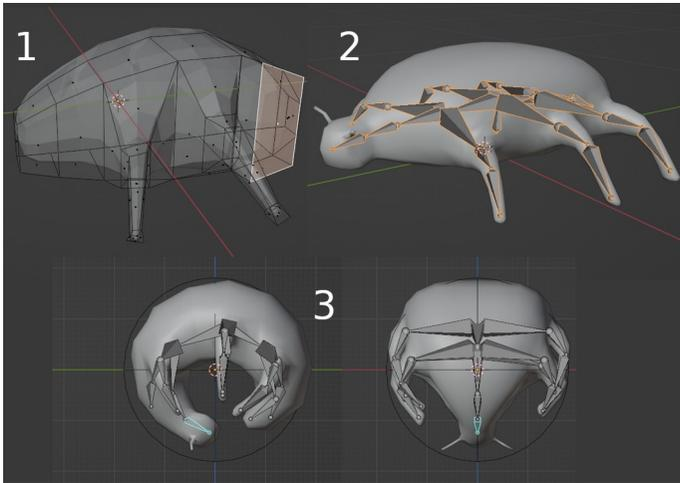
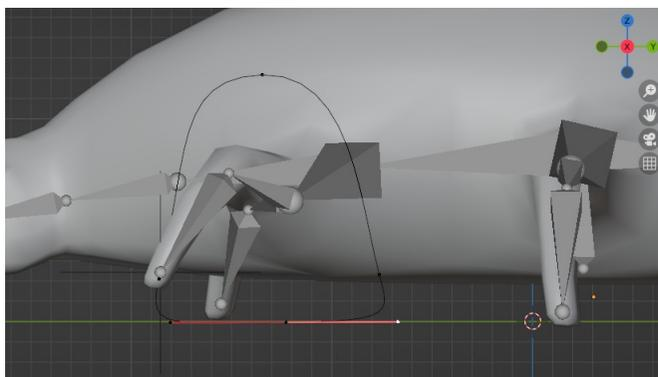

Figure 12-11 Crafting and Rigging the Bug
Figure 12-12 The Bezier Circle to Control an IK Constraint
1. Start a new Blender scene, saving your previous work, but leave the start cube as the basis for the bug mesh, and rename it bug. The balls in the simulation were radius 0.2 so the bug should be about 0.6 long, 0.2 high and 0.4 wide. You can see the proportions in Figure 12-11 stage 2, and when curled up in stage 3. With the cube selected enter Edit mode and scale the vertices down to the size of the middle leg section. To help with the animation later, design the bug so it is walking on a surface running through the origin as shown in Figure 12-12. Extrude and scale sections in the Y direction for other body sections, the head and tail. Once you have enough divisions along the length of the bug use mesh bisect as you did in Chapter 10 then add a mirror and a subdivision modifier and set shading to smooth.
3. Because the bug is symmetrical you only need to construct one half of it. Start by adding a new armature object, set it to display in front of the mesh, then switch to Edit mode in orthographic view from the X direction, and scale the initial bone down so it's about a third of the height of the bug, as visible in Figure 12-11 stage 2. Extrude this forwards four times and backwards three times to make the spine – if that's the right term for an invertebrate. In orthographic view from above extrude three bones from matching nodes on the spine to the points where each leg joins the carapace, renaming each bone “leg1.001”, “leg2.001” and “leg3.001”. Now, when you extrude these bones the suffix will increment, and if you set snapping to volume, you can position the bones to the center of the legs as you extrude them. Remember to turn snapping off afterwards otherwise you will run into problems when you try to move control points or objects later.
5. Before you set up the scuttling animation, create the pose with the armature curled up, changing to the unposed state as an uncurling animation. With the armature selected and in Pose mode, view the bug from the side in orthographic view. Move the spine bones to make the mesh as spherical as possible then view from different angles and fold the legs in. In Figure 12-11 stage 3 you can see the two orthographic views, and also that I added a rigid body with a spherical collider to help position the bug inside, though you will need to remove the rigid body when
6. You will now create a second strip to make the legs move, so click on **+ NEW** to create the action and rename it scuttle. When you move the frame pointer you will find that the NLATrack for uncurl is still being followed because there is no action yet set above it in the stack. Move to frame 1, in Pose mode select all the bones, clear the transforms and add a keyframe for the unposed state. To set up leg movement, switch back to Object mode and add a Bezier circle object then, in Edit mode scale, rotate and move it to the path that the end of the front left leg should follow, as shown in Figure 12-12. Add an empty and reduce its size in the Object Data Properties tab so it matches the scale of the bug, then add an object constraint **Follow Path** setting the Target to the Bezier circle you just added. Click the button **Animate Path** to automatically create the modifier in the curve. You now just need to select the armature and, in Pose mode select the end bone of the front left leg. Add an inverse kinematic bone constraint setting the Chain Length to **2** and the Target to the empty.